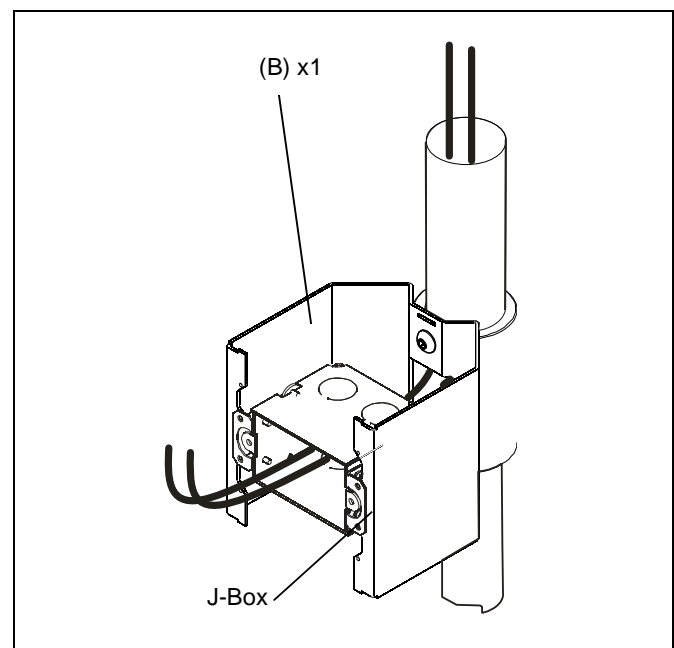

**Figure 3**
3. Orient J-Box as shown below and remove knockout from back side. (See Figure 3)
4. Slide J-Box into mounting plate (B). (See Figure 3)